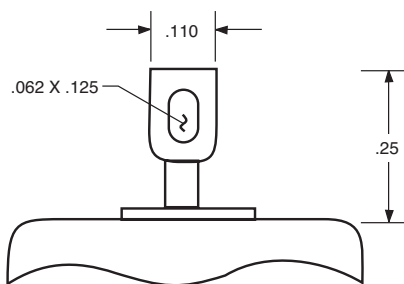

Figure 2. Optional Loop Type Solder Terminal
**Solder (Loop) Terminal** - As an option, Narda offers a glass to metal loop type solder terminal, as shown in Figure 2.